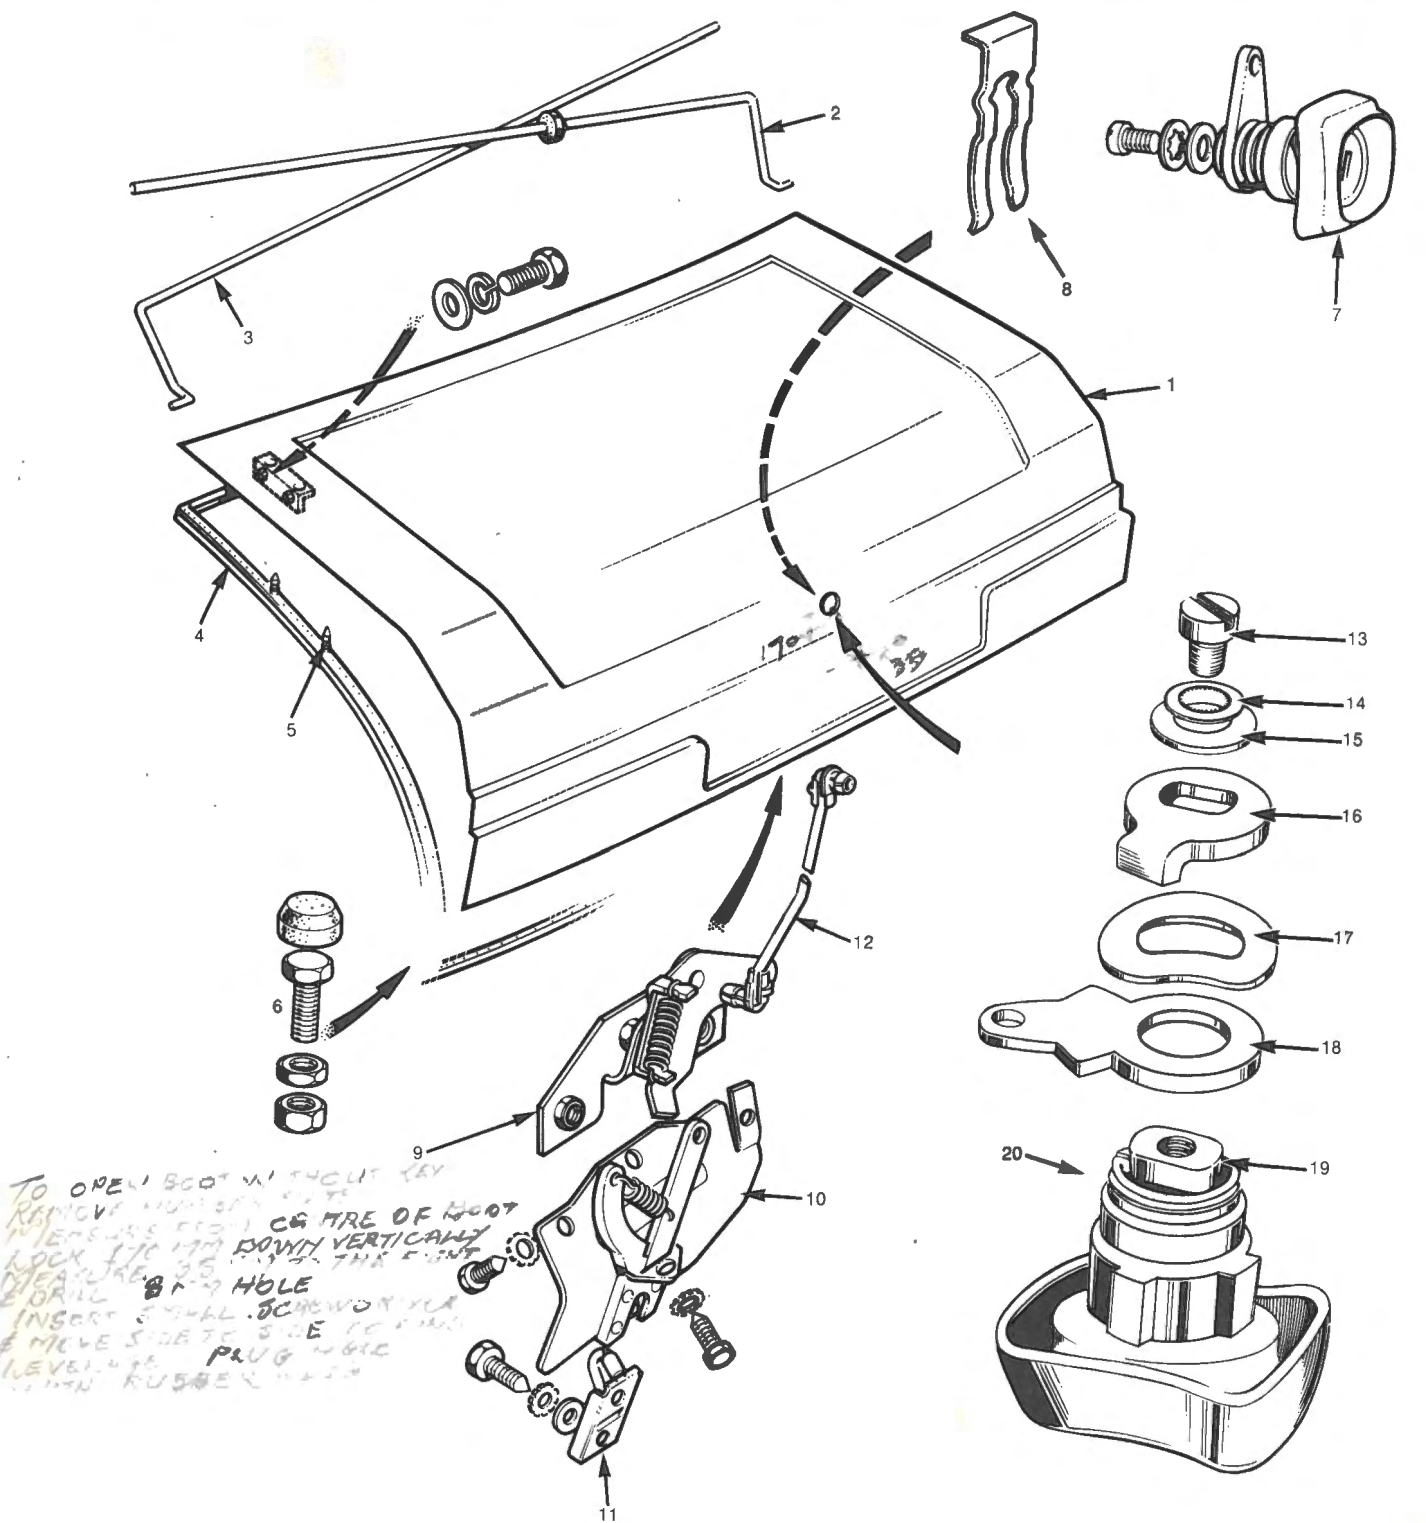

Fig. U-8
- 4 Remove the lock catch assembly. Refer Fig. U-8.